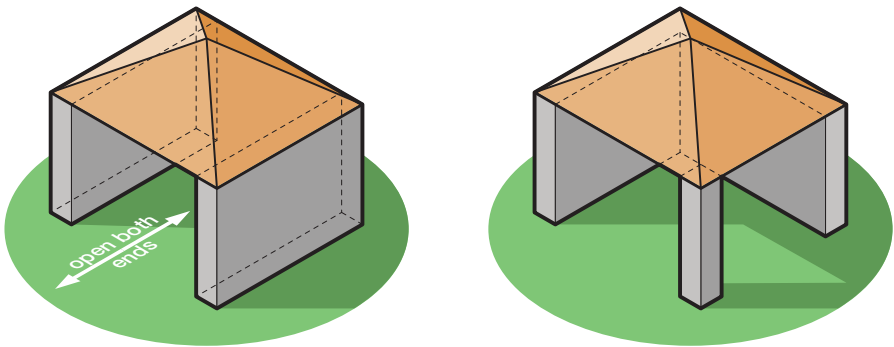

Figure 4: Examples of structures that have at least two sides open, each of which is at least 25% of the total wall area.
- two sides are open as in figure 4; or